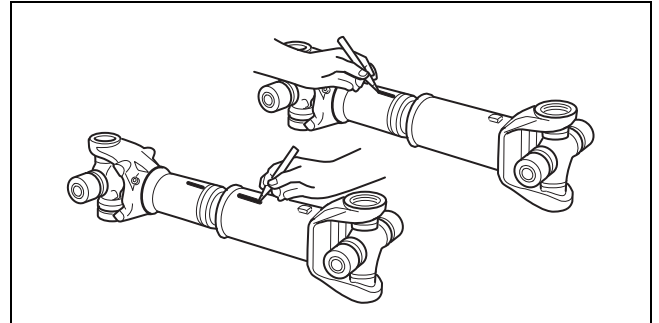

Figure 8.12
1. Mark the slip yoke and slip shaft sections to ensure that you reassemble them into their original positions. Figure 8.12.